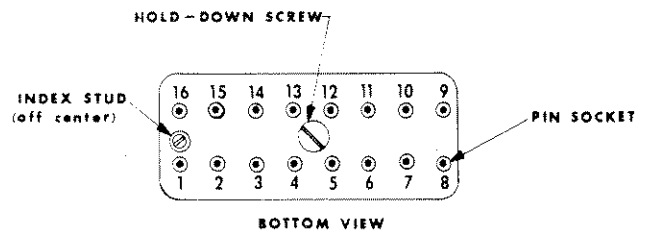

Figure 5-2. Module Pin Numbering System
**MODULE PIN NUMBERING SYSTEM** — The module pins are numbered as shown in Figure 5-2. The off-center index stud prevents the module's being plugged in backwards, and also provides a method for locating pin 1.